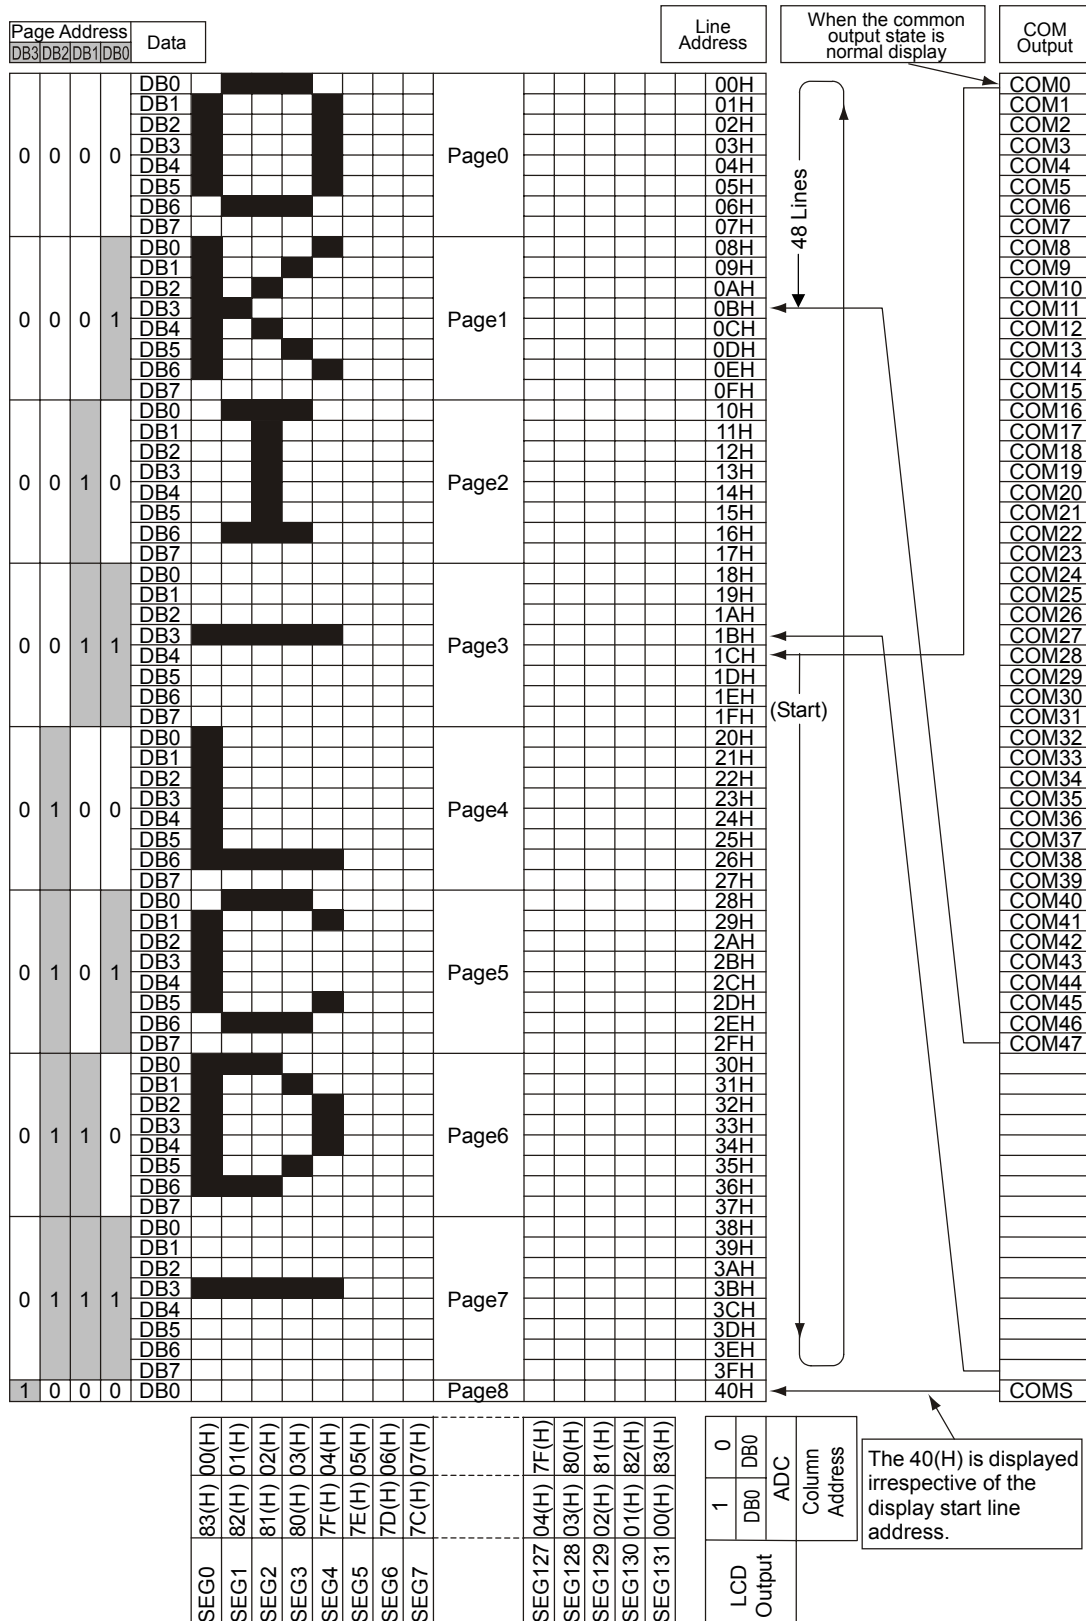

Fig. 4 Display data RAM address map
The page address of the display data RAM is specified using the page address set command as shown in Fig. 4. Specify the page address again when accessing after changing the page. The page address 8 (DB3, DB2, DB1, DB0 → 1, 0, 0, 0) is the RAM area dedicated to the indicator, and only the display data DB0 is valid in this page.
The column address of the display data RAM is specified using the column address set command as shown in Fig. 4. Since the specified column address is incremented (by +1) every time a display data read/write command is issued, the MPU can access the display data continuously. Further, the incrementing of the column address is stopped at the column address of 83(H). Since the column address and the page address are independent of each other, it is necessary, for example, to specify separately the new page address and the new column address when changing from column 83(H) of page 0 to column 00(H) of page 1. Also, as is shown in Table 5, it is possible to reverse the correspondence relationship between the display data RAM column address and the segment output using the ADC command (the segment driver direction select command). This reduces the IC placement restrictions at the time of assembling LCD modules.
The line address circuit is used for specifying the line address corresponding to the common output when displaying the contents of the display data RAM as is shown in Fig. 4. Normally, the topmost line in the display is specified using the display start line address set command (COM0 output in the forward display state of the common output, and COM63 output in the reverse display state). The display area is 64 lines in the direction of increasing line address from the specified display start line address. When the indicator-dedicated common output pin (COMS) is selected, data in Line Address 40 H = page 8 and bit 0 is displayed irrespective of the display start line address. COMS selection is 65th in order.